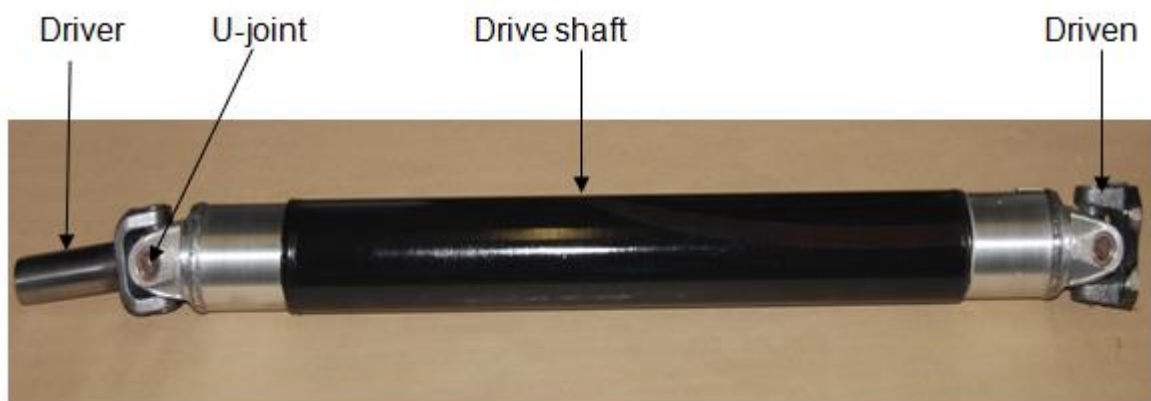

Fig. 1
- Universal joints can be used to link the two shafts even when they are not in line with each other. Fig. 1 shows the various parts.
- In Fig. 1 it will be seen that universal joints are required on both sides of the drive shaft. One joint connects the drive shaft to the engine (driver) and the other joins the drive shaft to the gearbox (driven).